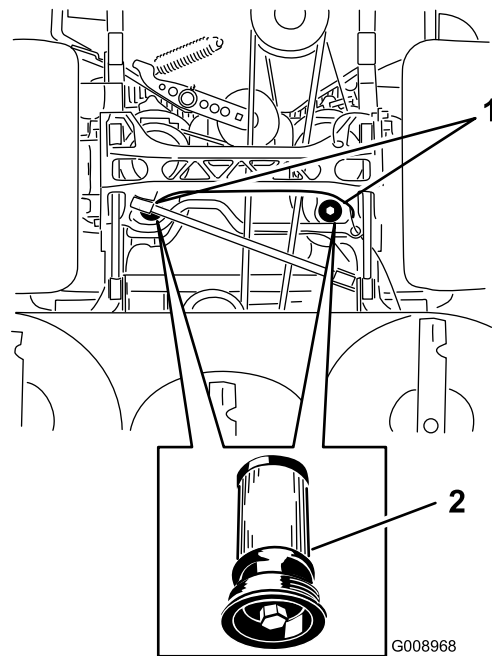

Figure 102
5. Place a drain pan under the filter, remove the old filter, and wipe the surface clean (Figure 102).
6. Apply a thin coat of hydraulic fluid to the rubber gasket on the replacement filter (Figure 102).